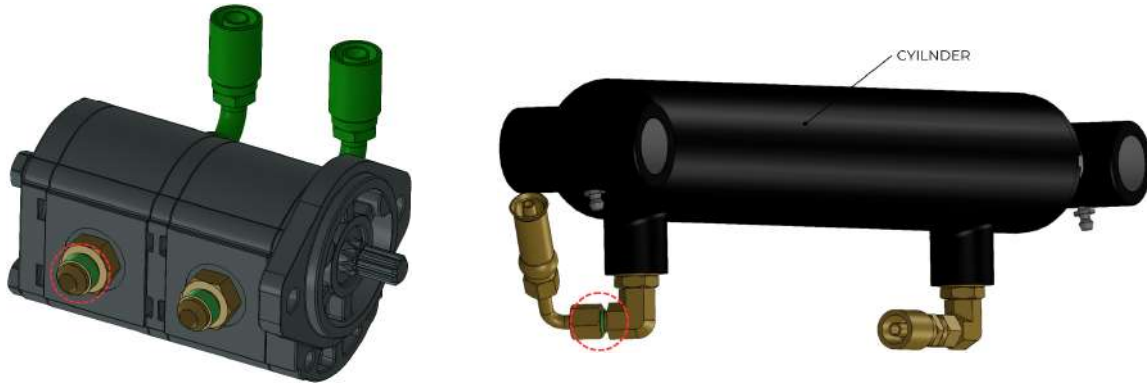

Figure 12. Connections.
**NOTE :** Colors are used to denote connections between elements, as depicted in the figure 12 above with the highlighted green color (encircled in red).